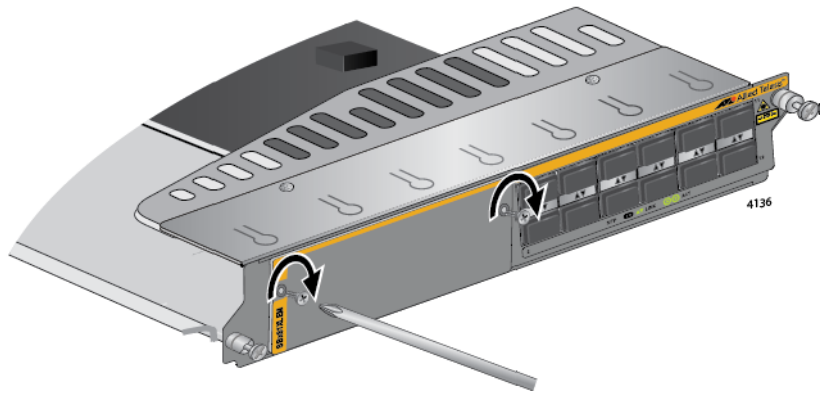

Figure 169. Securing the Blank Slot Cover
10. Secure the blank slot cover to the card with a Phillips-head screwdriver and the two screws removed in step 3. Refer to Figure 169.